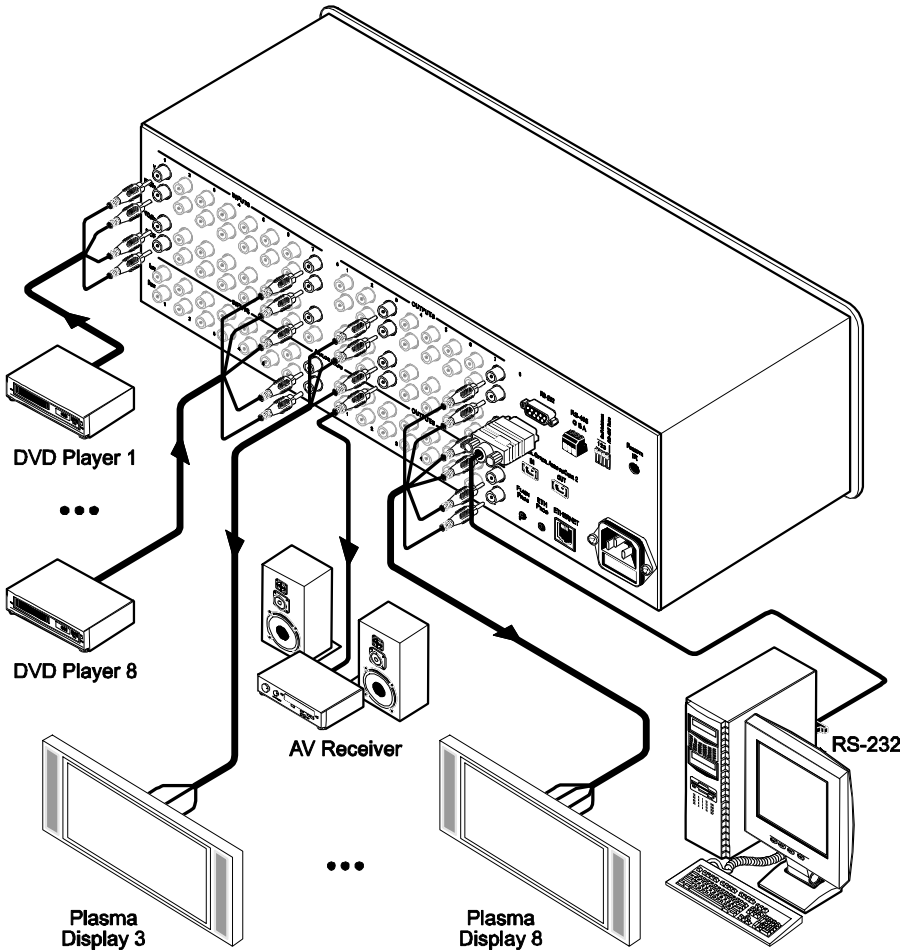

Figure 4: Connecting the VS-88HC 8x8 Home Entertainment Matrix Switcher
To connect the **VS-88HC**, as the example in Figure 4 illustrates, do the following¹:
5. Connect the power cord⁸ (not shown in Figure 4).